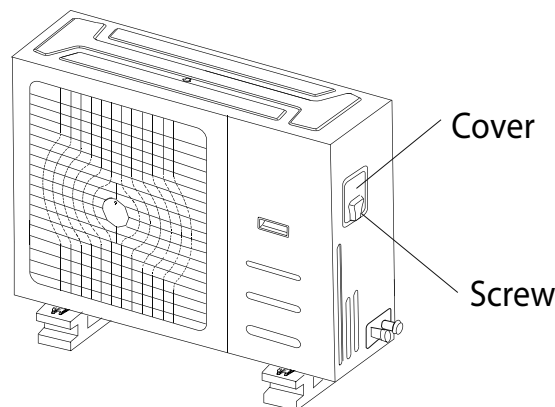

Fig.9-2
- Remove the electric cover of the outdoor unit. If there is no cover on the outdoor unit, disassemble the bolts from the maintenance board and remove the protection board. (See Fig. 9-2)